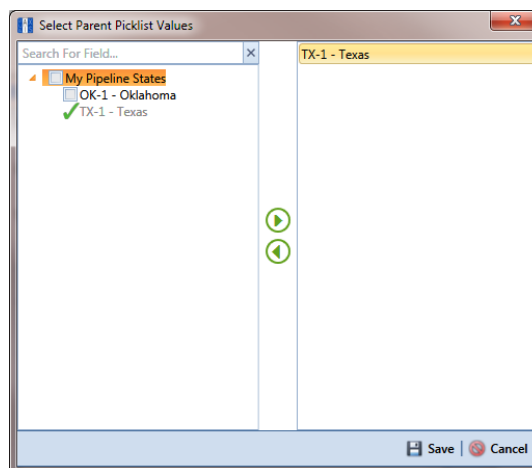

Figure 3-52. Select Parent Picklist Values
- d Map a data item in the parent picklist to the currently selected data item in the child picklist. A list of data items related to the parent picklist display in the left pane of the dialog box (Figure 3-52).
- d Map a data item in the parent picklist to the currently selected data item in the child picklist (Figure 3-52, page 97). Click  **Save** when you finish to save settings and close the dialog box.
- 2) Map a data item in the associated parent picklist to the new data item in the child picklist in the following manner. A list of data items related to the parent picklist display in the left pane of the dialog box (Figure 3-52, page 97).